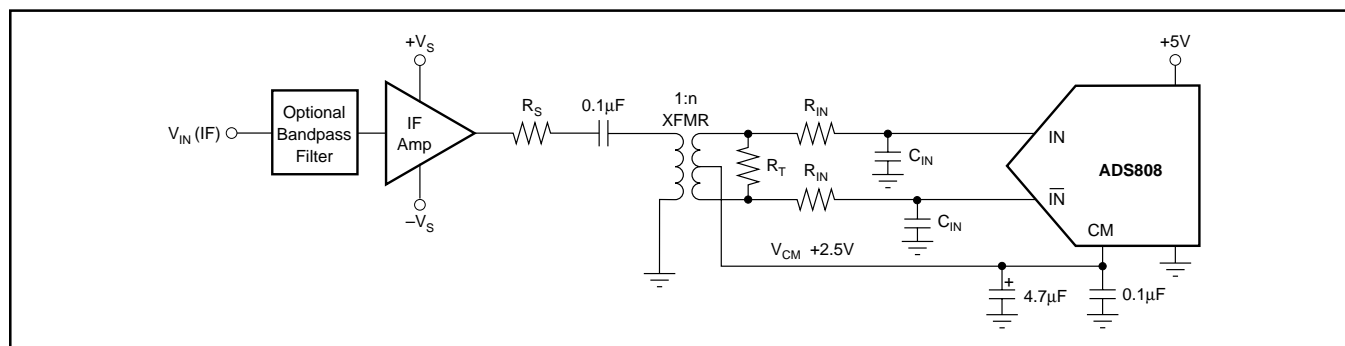

FIGURE 4. Driving the ADS808 with a Low Distortion RF Amplifier and a Transformer Suited for IF Sampling Applications.
One possible interface solution that uses a transformer is given in Figure 4. The input signal is assumed to be an Intermediate Frequency (IF) and bandpass filtered prior to the IF amplifier. Dedicated IF amplifiers, for example the RF2312 or MAR-6, are fixed-gain broadband amplifiers and feature a very high bandwidth, a low-noise figure, and a high intercept point at the expense of high quiescent currents of 50 to 120mA. The IF amplifier may be AC-coupled or directly connected to the primary side of the transformer.
A variety of miniature RF transformers are readily available from different manufacturers, i.e.: Mini-Circuits, Coilcraft, or Trak. For the selection, it is important to carefully examine the application requirements and determine the correct model, the desired impedance ratio, and frequency characteristics. Furthermore, the appropriate model must support the targeted distortion level and should not exhibit any core saturation at full-scale voltage levels. Since the transformer does not appreciably load the ladder, its center tap can be directly tied to the CM pin of the converter (see Figure 4). The value of termination resistor (R_T) should be chosen to satisfy the termination requirements of the source impedance (R_S). It can be calculated using the equation $R_T = n^2 \cdot R_S$ to ensure proper impedance matching.